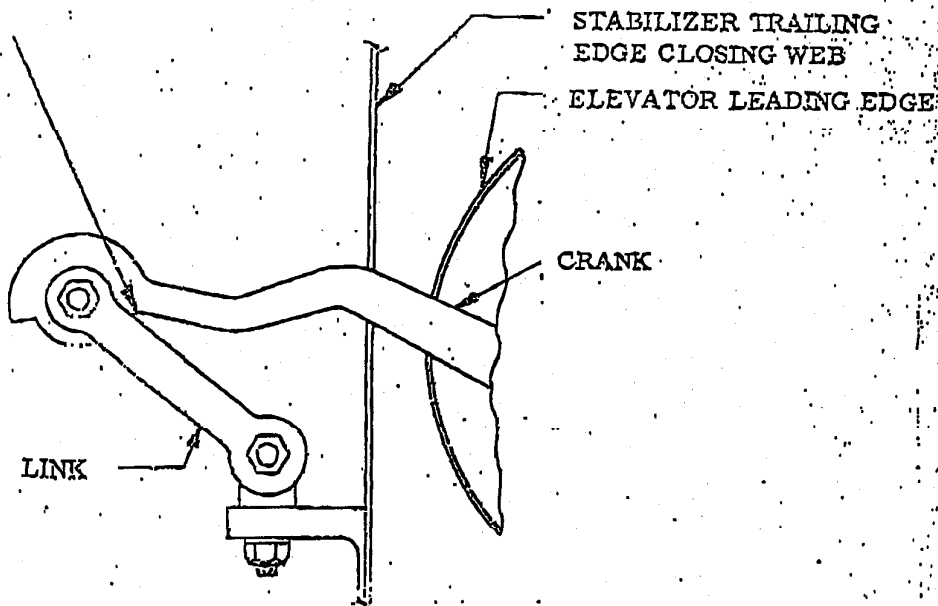

FIGURE 203 - GEARED TAB INBOARD DRIVE LINKAGE
- (1) Recheck installation for being complete and safetied.
- (2) Check and adjust elevator and tab travels per 27-30-03/201.
- (3) Operate the elevator full travel up and down. At the geared tab inboard drive mechanism, check the crank for interference with the link, per Figure 203. Interference will result in a mark in the crank boss radius, as shown. Any interference must be corrected. Assure that the large cutout in link mates with crank.
- (4) Check that the pushrod has at least 3/32 inch clearance from the pushrod guide throughout tab travel (elevator in neutral) using clearance gauge 1SF2025-27-51H-2. Clearance is acceptable if the gauge can be moved fore-aft over the length of the pushrod with no more than light hand force. If clearance is not within limits, reposition the pushrod guide trough per 55-20-03/201 to obtain 1/8 inch clearance as checked with clearance gauge 1SF2025-27-51H-3. (Engineering Reference FAA AD 63-8-2).